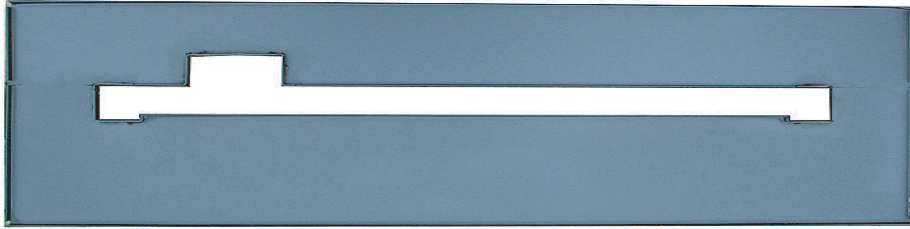

Figure 37 - One piece media tray
1. Place media tray (see figure 37) on the support brackets as shown on figure 38.